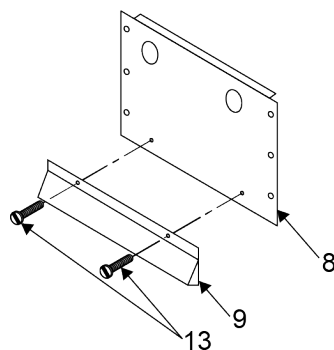

Figure 2-9 Heat Shield Deflector Assembly
- 5) Loosen the two screws (13) on the heat shield deflector (9), on the firebox and flue assembly and raise the deflector to its highest position, see Figure 2-9 Heat Shield Deflector Assembly, page 30.
- 6) Retighten screws (13) to hold the heat shield deflector (9) in the high position, see Figure 2-9 Heat Shield Deflector Assembly, page 30.
- 12) Install u-bolt (3) to rinse hose bracket and gas line.
- 13) Turn the filter valve handle (4) to the CLOSED position.
- 14) Loosen the two screws (13) which are holding the heat shield deflector (9) in the high position, and lower it to the normal operating position, see Figure 2-9 Heat Shield Deflector Assembly, page 30.
- 15) Tighten the two screws (13) on the heat shield, see Figure 2-9 Heat Shield Deflector Assembly, page 30.